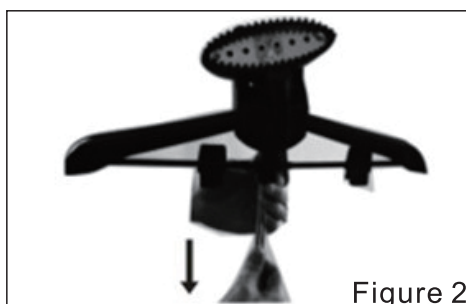

Figure 2
- ③ Install the vapor nozzle and the clothes hook and hanger downward, in the direction as shown in Figure 2.